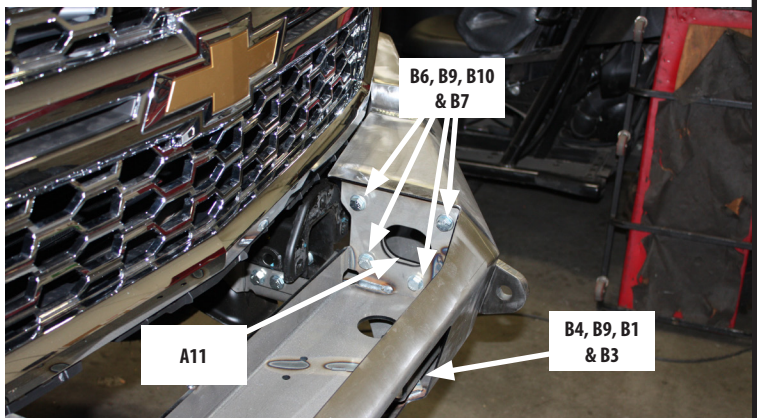

Figure 12
18. Place bumper (A1) on to brackets. Install the bolts (B6) with washers (B9), lock washer (B10) and nut (B7) - along with two 7/16" bolts (B4), four washers (B9), two lock washers (B1) and two nuts (B7) supplied in your hardware kit. See Figures 12 and 13. Hand tighten only at this time.